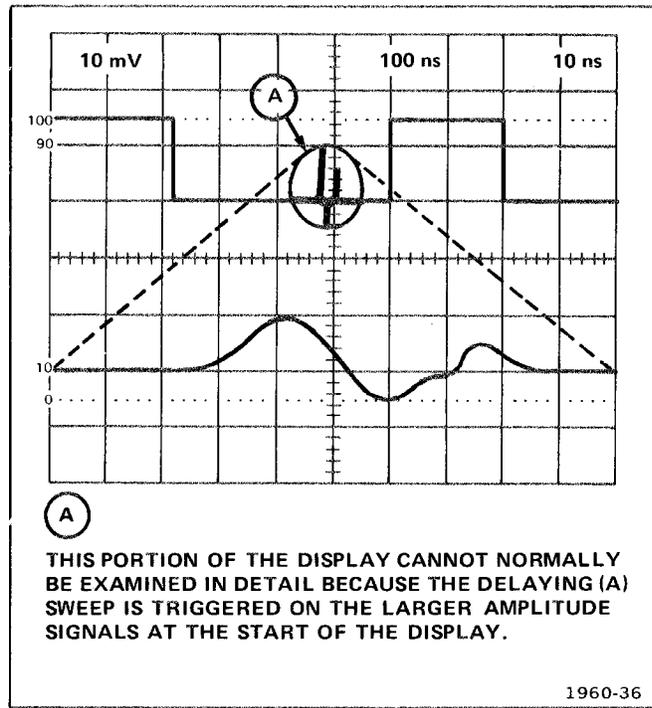

Fig. 1-10. Magnifying a selected segment of the delaying (A) sweep in the delay-time mode with mainframe alternate or chopped horizontal operation.
5. Use the following procedure to magnify a selected segment of the delaying (A) sweep waveform and determine apparent magnification in the delay-timemode.
- b. Set the appropriate triggering, position, deflection-factor, and sweep-rate controls for the desired dual-trace display. See the example in Fig. 1-10.
c. Turn the DELAY TIME control to position the intensified zone to the portion of the delaying (A) sweep waveform to be magnified.
d. Set the delayed (B) sweep unit sweep rate to select the desired duration of the magnified display as indicated by the length of the intensified zone.
e. Observe the magnified display on the delayed (B) sweep. See Fig. 1-10.
f. Determine apparent magnification by dividing the 7B85 TIME/DIV setting by the delayed (B) sweep unit sweep-rate setting.
Example: The apparent magnification of the delayed (B) sweep shown in Fig. 1-10 with a 7B85 TIME/DIV setting of .1 ms and a delayed (B) sweep unit sweep-rate setting of 1 μs is: